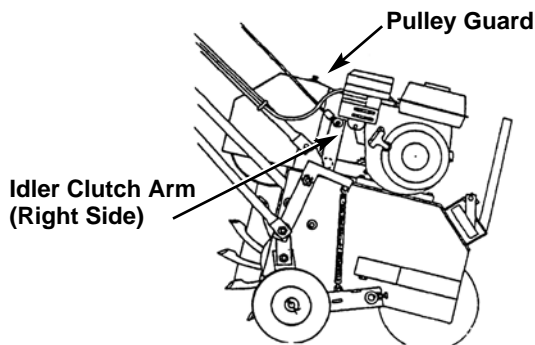

Fig. 2
**TA-26D** - Qty. 4, one in each wheel assembly and one in each idler/clutch arm pivot bearing. (See Fig. 2.)
2. Take off pulley guard (see Fig. 2) by removing bolts, etc. which attach it to the frame.